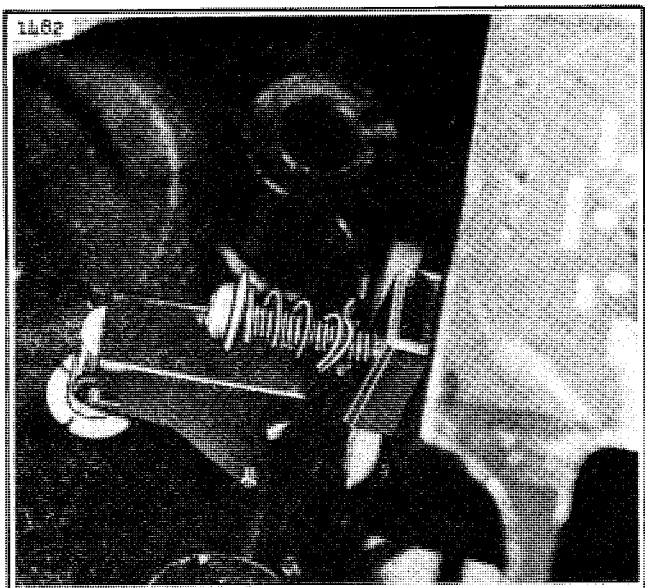

Figure 3. Position of Adjusting Screw Assembly
1. Remove fork lock adjusting screw, spring and washer. (See Figure 3.)